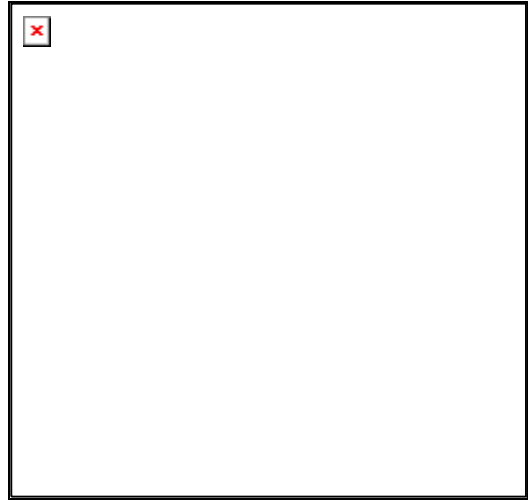

fig. 13: Calibrating the measuring amplifier C431011e
The following instructions are referring to a setup and calibration on-site. The material tension will be simulated by a weight (fig. 13).
- Load material or rope with a defined weight (fig. 13)